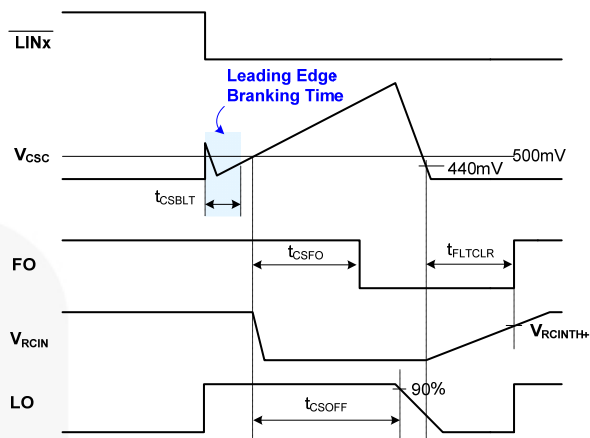

Figure 42. RCIN and Fault-Clear Waveform Definition
Figure 42 shows the waveform definitions of RCIN, FO, and the low-side driver; which uses a soft turn-off method when an under-voltage condition of the low-side gate driver supply voltage (V_{DD}) or the current-sense pin (CS) recognizes a fault. If a fault condition occurs, the FO Pin is internally pulled to COM and all outputs (HO1,2,3 and LO1,2,3) of the gate driver are turned off. Low-side outputs decline linearly by the internal sink current source ($I_{SOFT}=40\text{ mA}$) for soft turn-off, as shown in Figure 42.